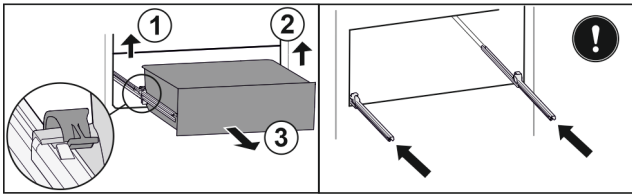

Fig. 126
- ▶ Lift left clamp and simultaneously pull drawer forwards on the left. Fig. 126 (1)
- ▶ Lift right clamp and simultaneously pull drawer forwards on the right. Fig. 126 (2)
- ▶ Remove drawer to the front. Fig. 126 (3)